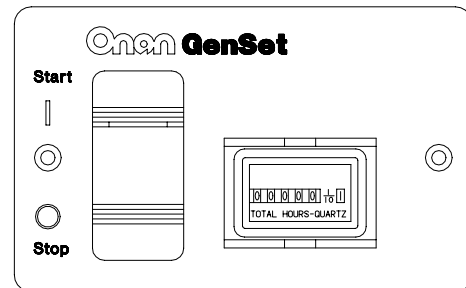

FIGURE 1-5. REMOTE SWITCH / HOUR METER
- Remote switch with status indicator light and hour meter (Figure 1-5).